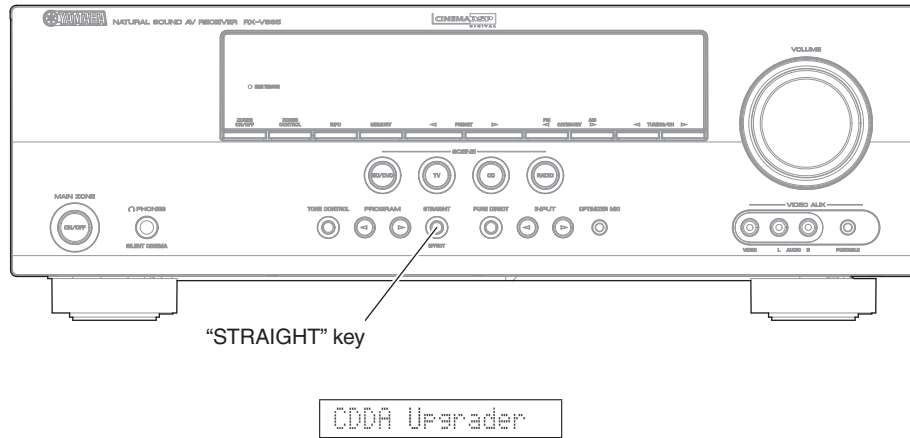

Fig. 2
1. While pressing the “STRAIGHT” key of this unit, connect the power cable of this unit to the AC outlet. (Fig. 2)
The FIRMWARE UPDATE mode is activated and “CDDA Upgrader” is displayed. (Fig. 2)